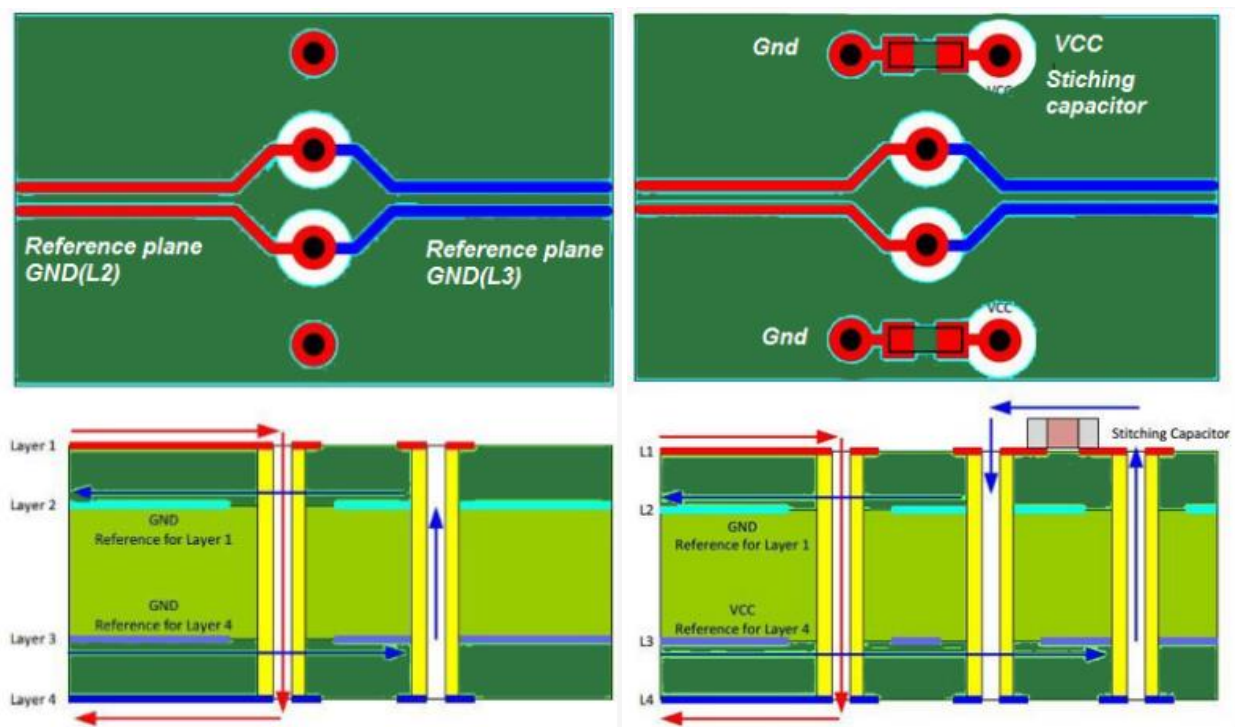

Figure 7.1. Layout Recommendations
- High-speed signals that transition from one layer to another should have a corresponding transition ground via if both reference planes are ground. If the reference on the other layer is a VCC plane, then a stitching capacitor should be used (ground to VCC). Refer to Figure 7.1.